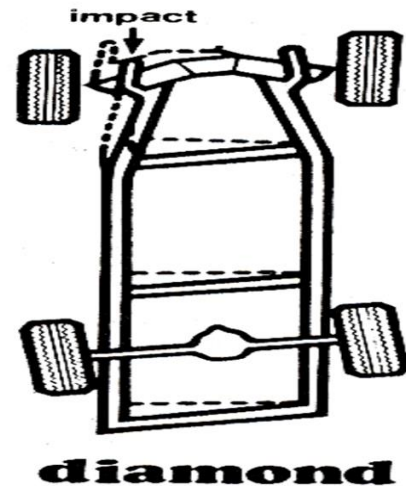

Fig. 13: A diamond condition affecting the entire frame alignment resulted from a hard impact from the front. but only on one side.
- Diamond damage (Fig.13) usually occurs when the vehicle is struck off-center.